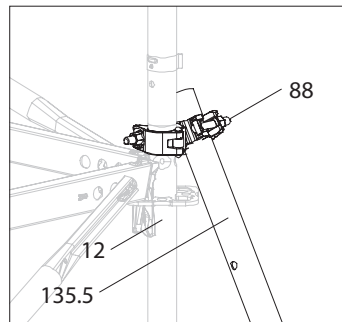

Fig. A15.05a
(Fig. A15.05a):
1. Extend the Multi Brace EWB with a scaffold support (134) or a further inner tube (135.5).
4. From a safe work location, mount the inner tube to the standard (12) with a swivel coupling (88). Push the coupling as close as possible to the rosette and tighten. (Fig. A15.05a)